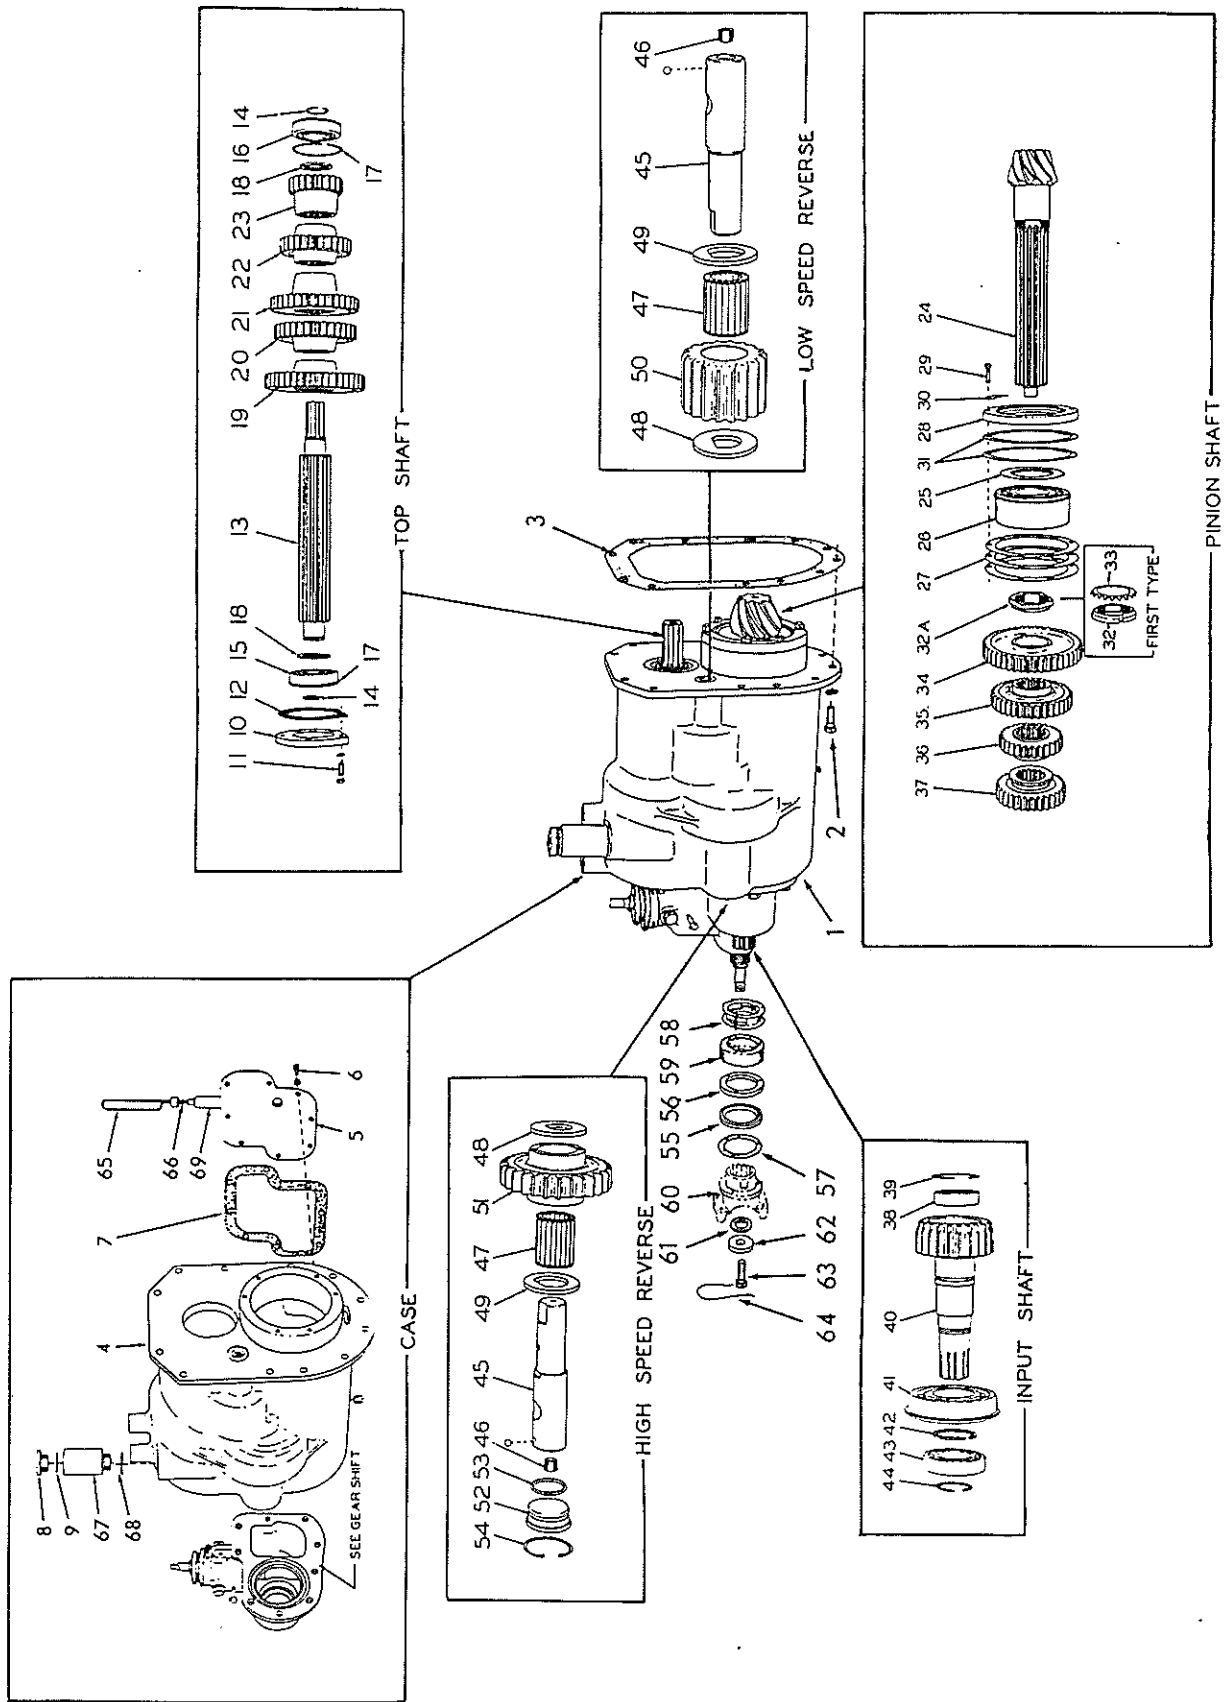

Fig. 7 Transmission Assembly (T-4311)
- a. Install rear bearing shield Fig. 7 (25) on shaft with concave side of offset against pinion gear (shield not used S/N 21448-up). Heat rear bearing in oil to 275°F; install bearing on shaft with snap ring groove in bearing toward rear. Install retaining nut, Fig. 7 (32), and lockwasher; torque nut to 500 lbs.ft. and lock with lockwasher.
Effective with S/N 15586 lockwasher Fig. 7 (33) was discontinued and a new style bearing retaining nut (32A) used. Lock new style nut by staking in groove in shaft; torque is same.
LEGEND for Figure 7